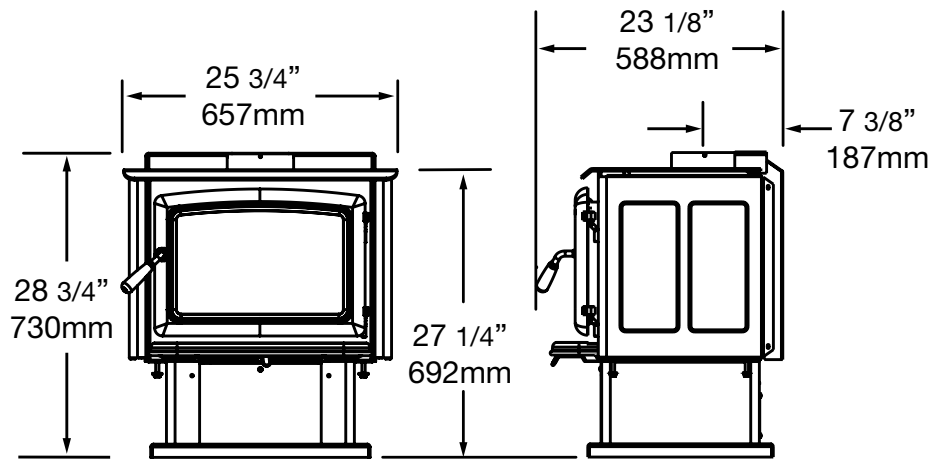

Figure 3: Baffle board removal.
2. Slide the baffle board to the back of the firebox above the rear brick rail then tilt it down in the front and remove from the firebox. (Figure 3)